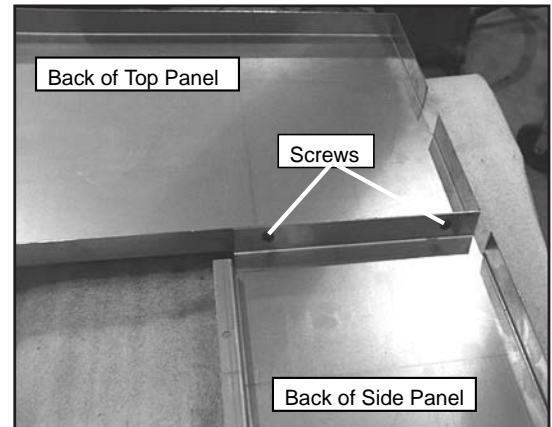

Figure 34.2
1. Secure the top surround to the surround sides with the screws provided. **Figure 34.2.**